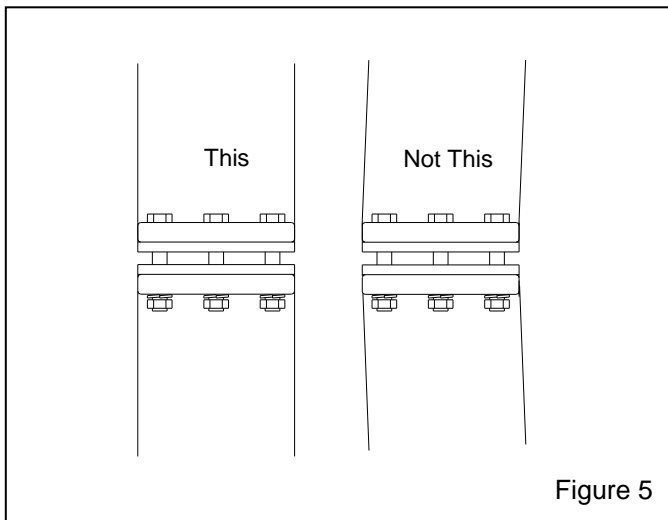

Figure 5
**3.9.2** Place the splice bars 90 degrees (perpendicular) to the belt. Clamp the splice bars in place and match-drill 3/8" through both ends of the belt. It is important to align the belt as shown in Figure 5. If the splice is misaligned, from not having the splice bar perpendicular to the belt, the belt may tend to drift off the pulley.